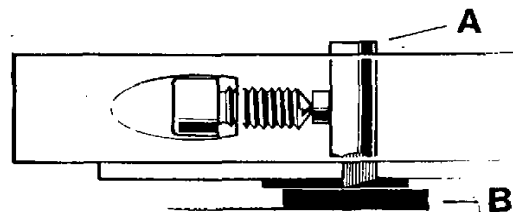

Fig. 42. Adjusting the cutter, 60-series
1. Adjust the height of the cutters by placing the tool as shown in fig. 42. Loosen the cutter holder's bolts and let the cutter (A) sink down in the cut-out in template (B), whereafter the holder bolts are tightened. Repeat